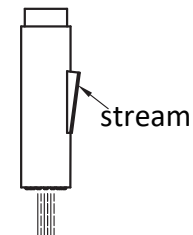

Figure 2
Turn the tap on and press the bottom of the spray (2) head button to change to stream. (As figure 2)